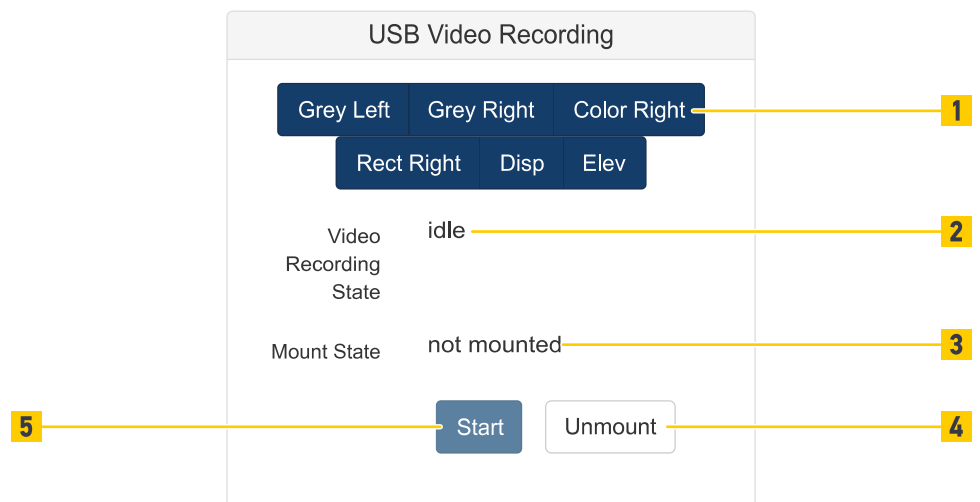

Fig. 161: USB video recording
- Choose the kind of image (Fig. 161 /1) to record.
- Check if the USB memory device is already mounted. The Mount State (Fig. 161 /3) should display *<mounted>*.
- To start recording click the Start button (Fig. 161 /5). The Video Recording State (Fig. 161 /2) changes to *<recording>*. The Start button toggles to a Stop button.
- After finishing recording click the Unmount button (Fig. 161 /4) before physically disconnecting the USB memory device.